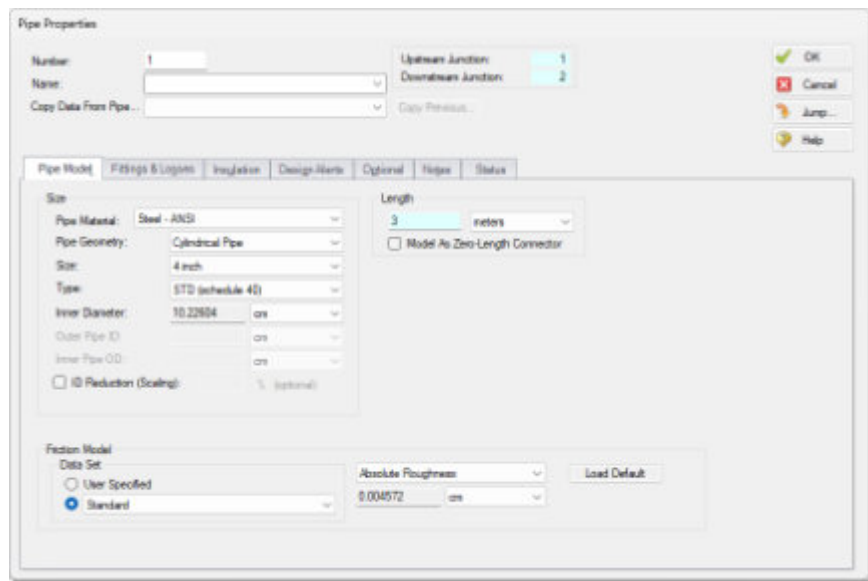

Figure 2.18 Properties window for Pipe P1
- **First, open the Pipe Properties window for Pipe P1.** The Pipe Properties window offers control over all important hydraulic parameters that are related to pipes. For Pipe P1, click the dropdown arrow for Pipe Material to select Steel - ANSI. Next, for Size, select 4 inch (10.2 cm ID), and for Type select STD (schedule 40). For the Friction Model Data Set, select Standard. Finally, enter a length of 3 meters (see Figure 2.18) and click OK.